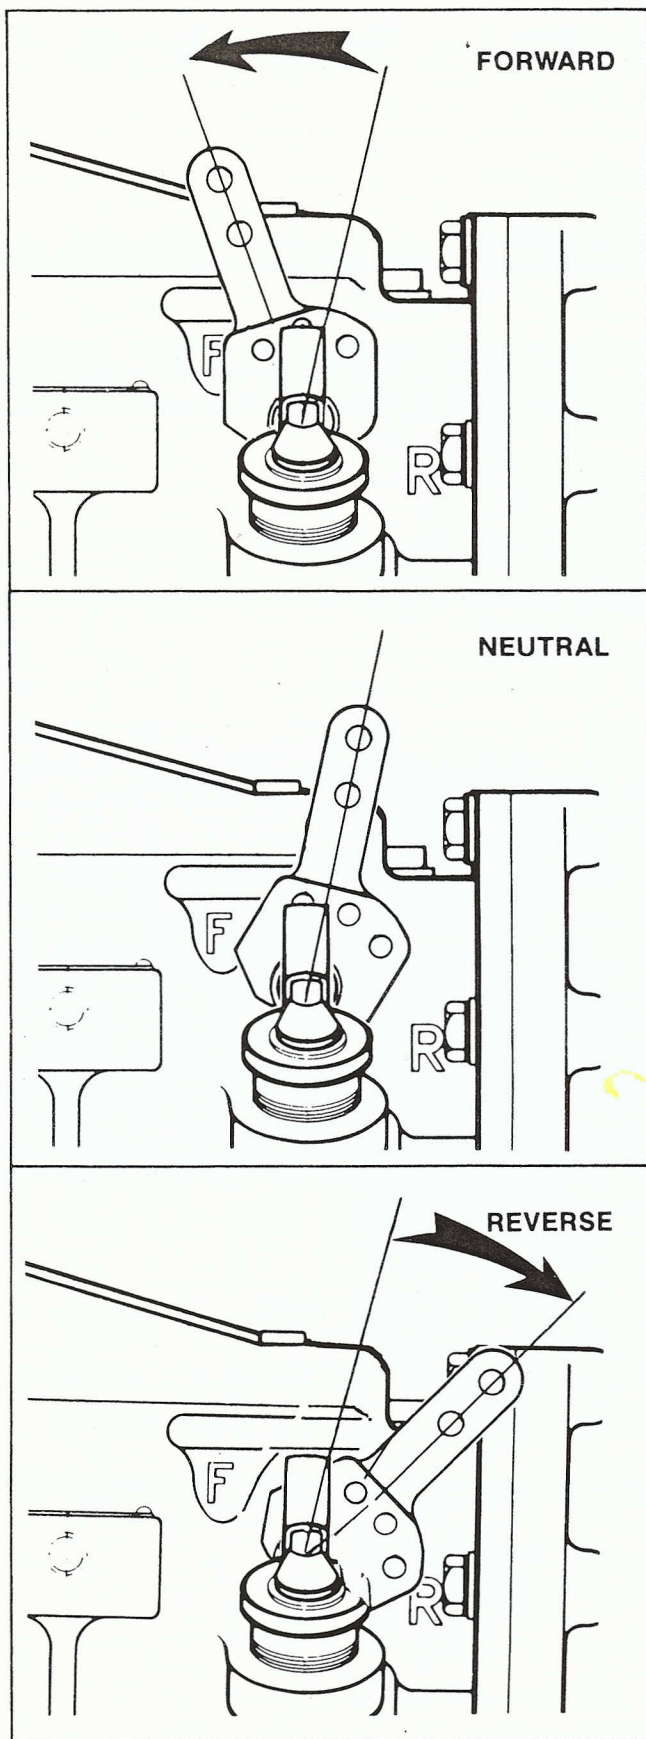

Figure 2-2.
The selector control mechanism and linkage must position the shift lever on the transmission exactly in Forward (F), Neutral (N), and Reverse (R) shifting positions. A detent ball located behind the transmission shift lever must work freely to center the lever in each position. (see Figure 2-2). The selector control positions at the helm(s) must be coordinated with those of the Velvet Drive® shift lever through shift mechanism adjustments. An improperly adjusted shift mechanism can cause damage to the transmission.